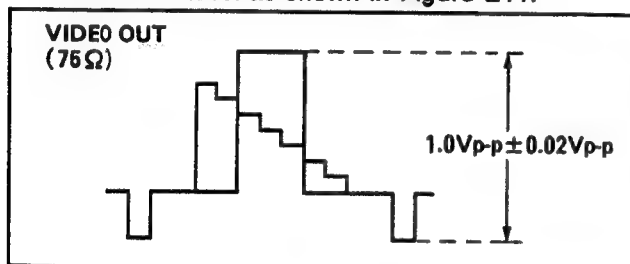

Figure E11
4. Adjust VR8002 for 1.0Vp-p \pm 0.02Vp-p as a luminance level as shown in Figure E11.